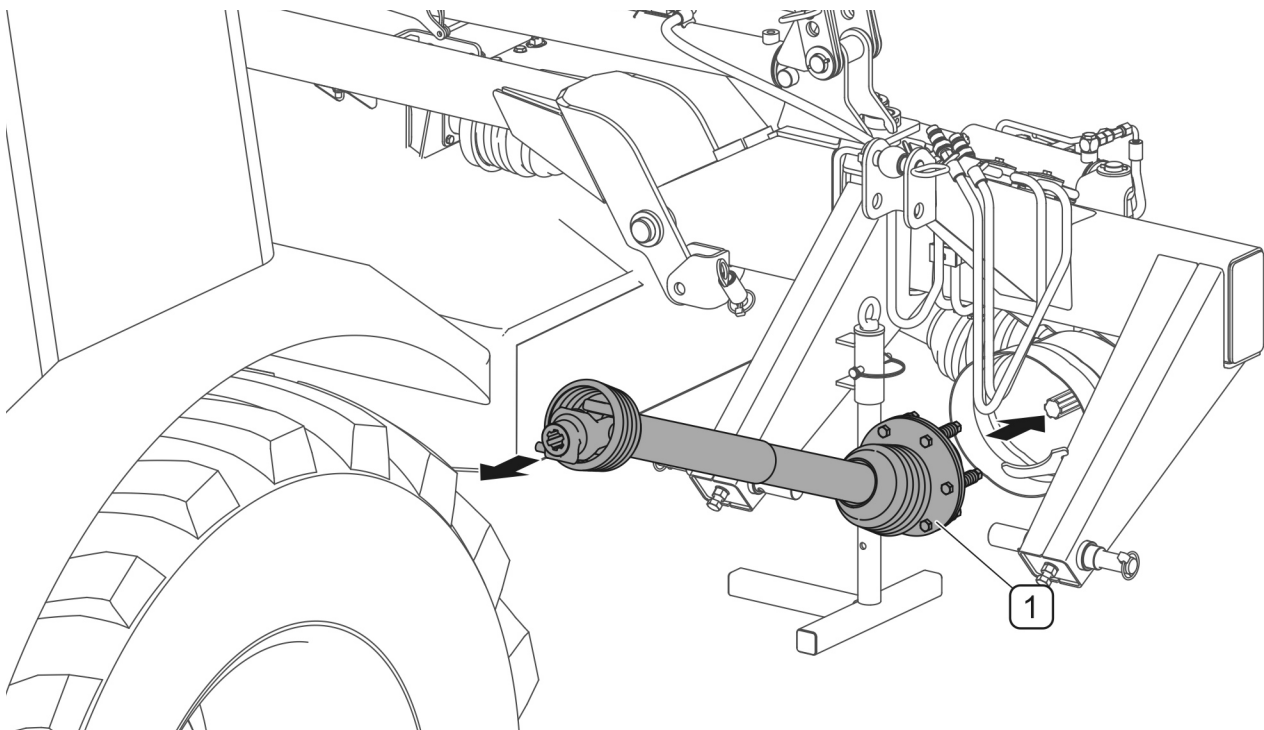

FIG. 4.8A Connecting of PTO shaft
The PTO shaft, which connects PTO of the tractor with the mower's intersecting axis gear is equipped with unidirectional overload release clutch. When connecting PTO shaft, its end should be terminated with a clutch (1) and connected to the mower's gear (FIG. 4.8A).